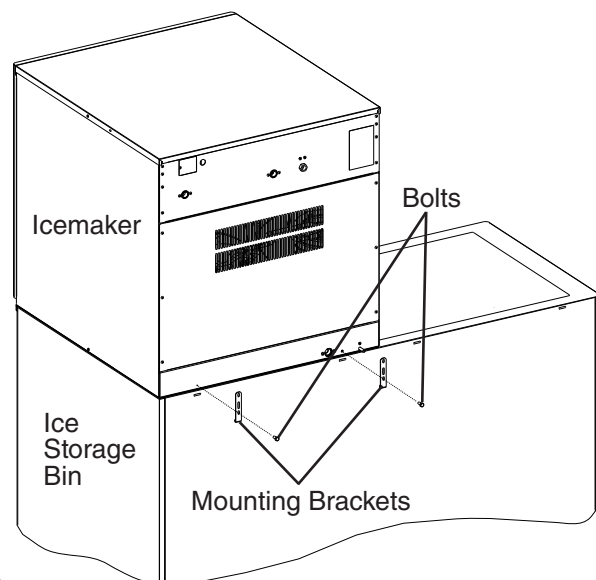

Fig. 2
- 5) Secure the icemaker to the storage bin using the 2 mounting brackets and the bolts provided. See Fig. 2.